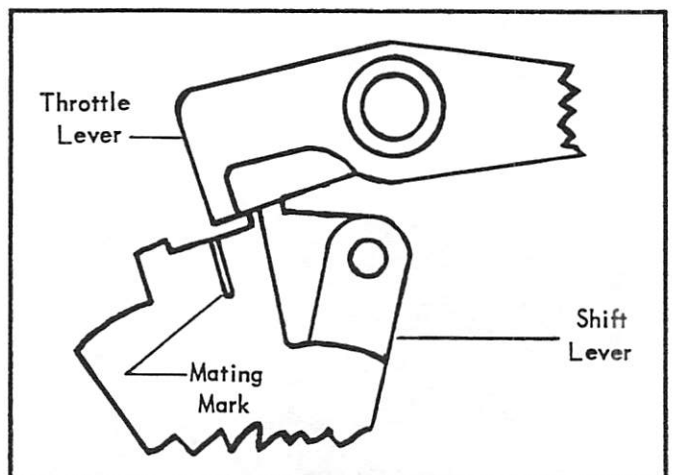

Figure 6. Linkage Adjustment
4. Adjust linkage so that mating mark on shift lever is to left of alignment mark on throttle control lever. (Figure 6)